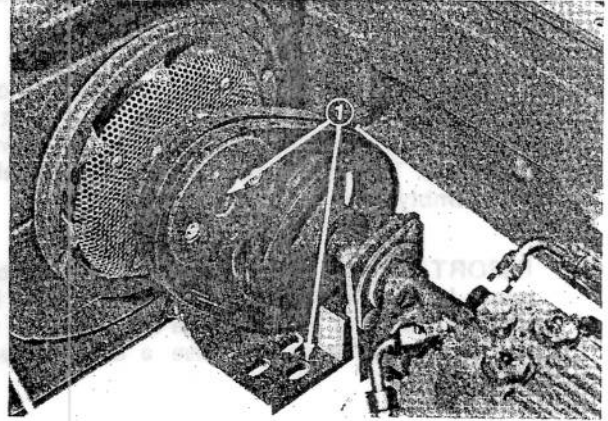
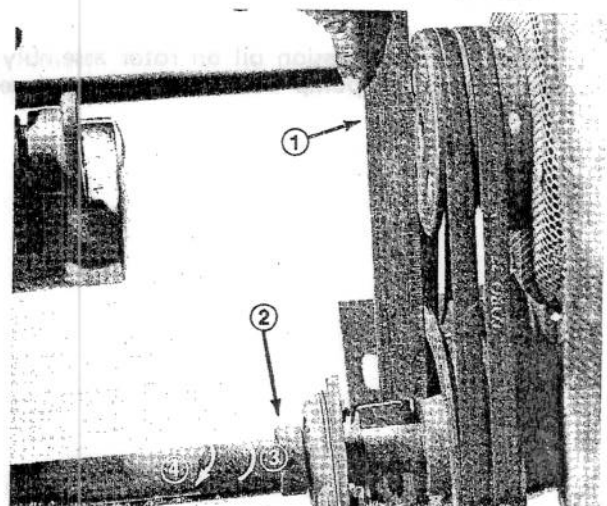

Figure 126
Figure 127
3. Remove three capscrews, flatwashers, lockwashers and nuts securing PTO brake bracket to mounting flange on engine plate (Fig. 126).
5. Install new belts around the PTO shaft pulley and engine pulley (Fig. 126), engage the PTO lever to tension belts and lay a straight edge along the bottom face of the engine and PTO pulleys to check alignment (Fig. 127). If pulleys are aligned within 1/16 inch (1.6 mm), proceed to step 6. If they are not aligned within 1/16 inch (1.6 mm) loosen locking collars on PTO shaft and shift shaft and pulley until proper alignment is achieved (Fig. 127). Relock collars.